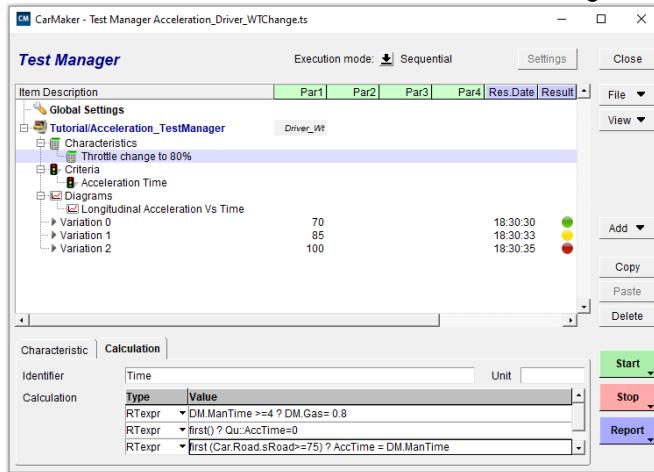

Figure 6.17: Defining Characteristics
You can create a variable in the *Maneuver* tab of the TestRun using Mini-maneuver Commands in the CarMaker GUI or by defining *Characteristics* (Add > *Characteristic*, see Figure 6.17) for the respective TestRun in the TestManager.
- 6.4.3.6.2 Add the condition for 80% gas after 4 seconds as shown in Figure 6.17.